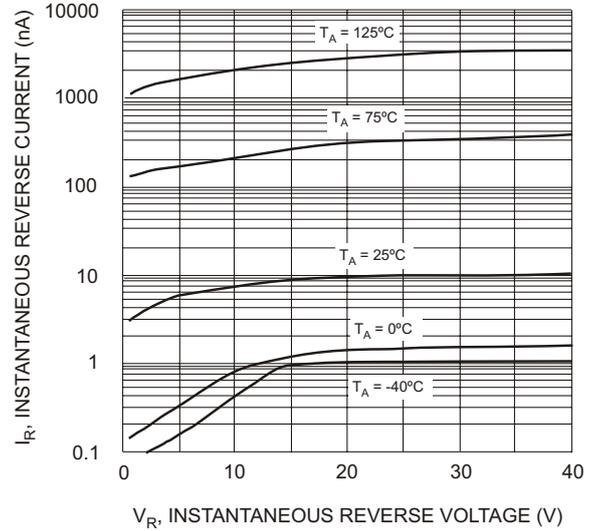

Fig. 2 Typical Reverse Characteristics
- Bidirectional-low-forward available with “-04” suffix (Figure 2)